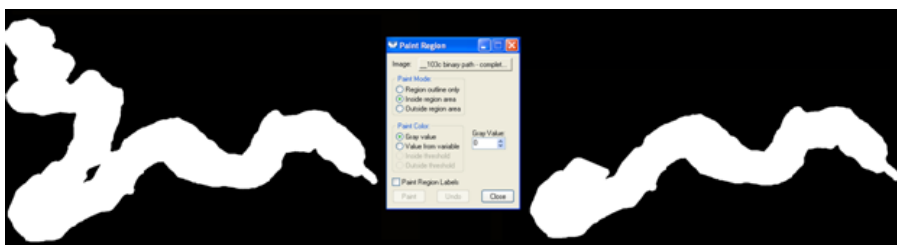

Figure 3. Complete binary path (left), Paint Region dialog box, and path truncated by blacking out part.
The three Apps commands discussed above provide identical data display and graphing tools. If you do not need these tools, or do not have the trackobj drop-in, you can track using the morphometry commands. The Measure - Integrated Morphometry Analysis (IMA) and the Morphometry - Measure Objects (MO) are two interfaces to the same engine. When tracking objects with IMA/MO, I recommend having only one object per tracking cycle. If you are starting with more than one object present, you can often use Process - Binary Operations - Binarize, to make a binary stack, then Process - Stack Arithmetic, Maximum, to make a binary path image. If you need to set up to have only one object/track at one time, you can use a region of interest with Paint Region, intensity level 0, to black out all but one path or part of one path (Figure 3). You can then use the Process - Arithmetic, Logical And (stack all planes, binary path mask), to blackout everything but the object of immediate interest.